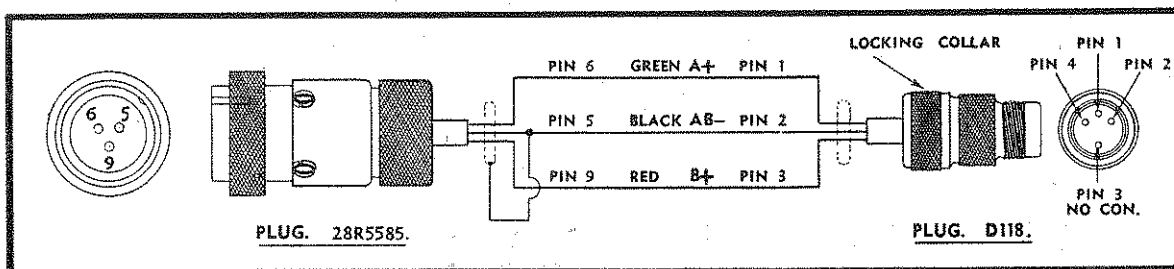

Fig. 4.—SHIELDED METAL BRAIDED OUTPUT CONNECTING CABLE AND PLUG CONNECTIONS.
35. After the unit has been connected to the Service Frequency Meter Type SCR211 by means of the connecting cable supplied (see Fig. 4) the output voltage should be adjusted by means of the Output Control.
3. Connect the unit to the equipment by means of the cable supplied (See Fig. 4.) The larger plug (3 pin) is connected to socket provided on the front panel of this unit (see Fig. 2) and the knurled nut is screwed up firmly. This will securely lock the plug to the socket.